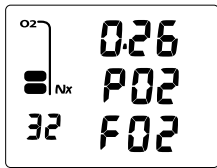

Fig. 74 - NO DECO SAFETY
**NO D SAFETY STOP ALT 2**, information includes (Fig. 74)